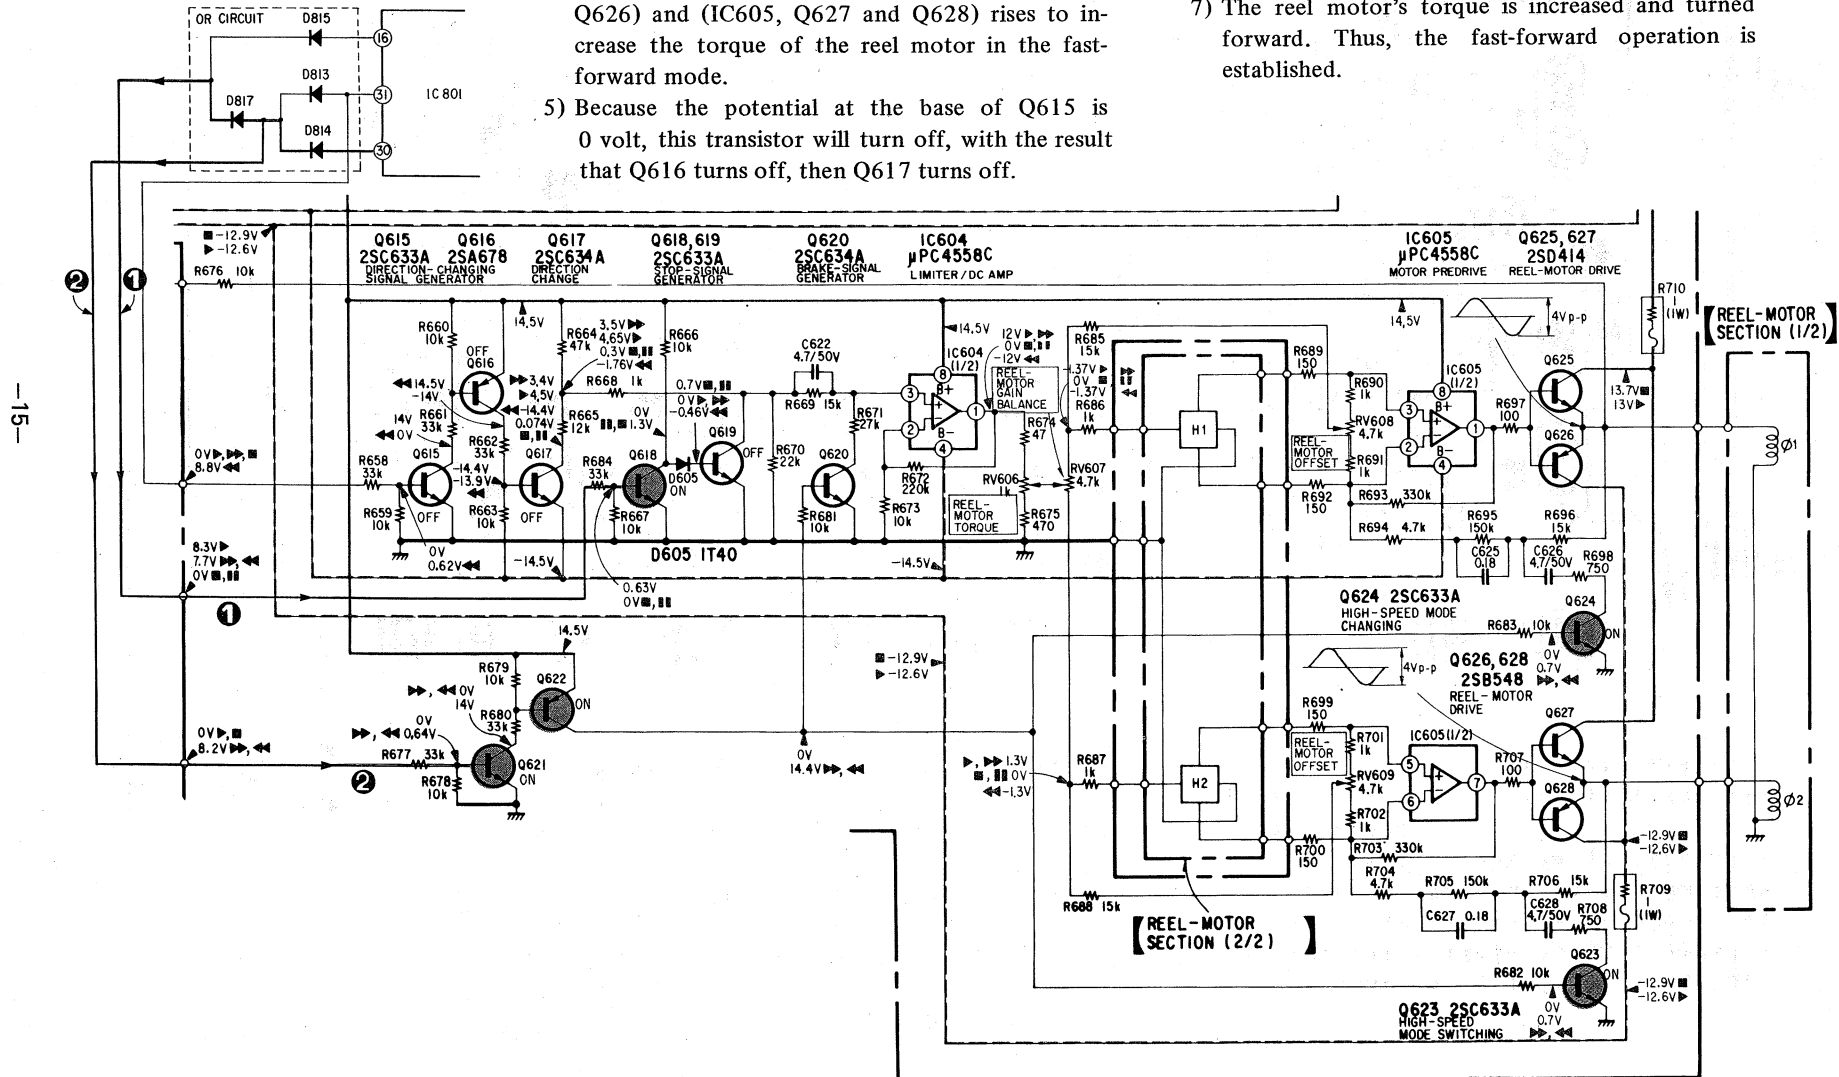

Fig. 17
1. Depressing fast-forward button (See Fig. 17)